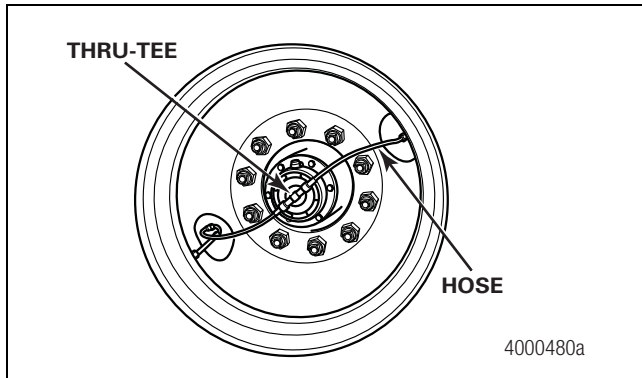

Figure 3.20
9. Check the wheel ends to verify that the tire inflation system hoses do not contact the wheels. Figure 3.20.